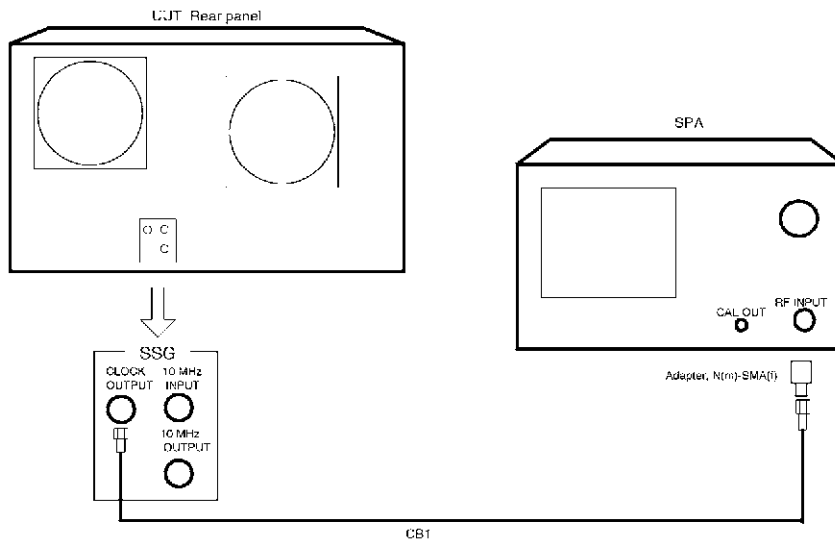

Figure 1-19 Setup of SSB Phase Noise Test
1. Connect equipment as shown in Figure 1-19.